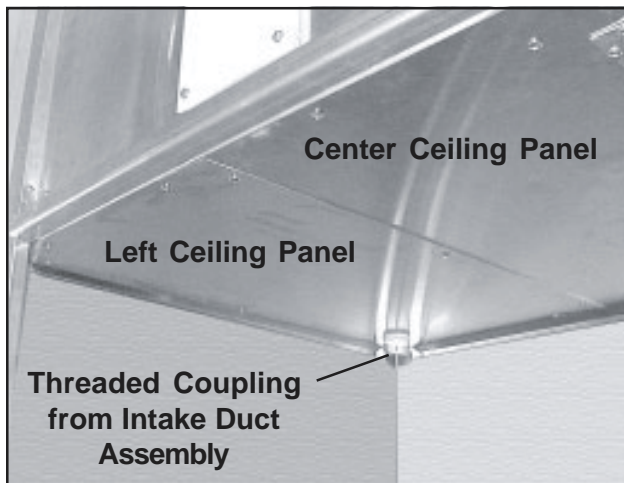

Figure 82. Left Ceiling Panel
1. Hold the left ceiling panel in place under the base frame to the left of, and overlapping, the center panel (Figure 82).